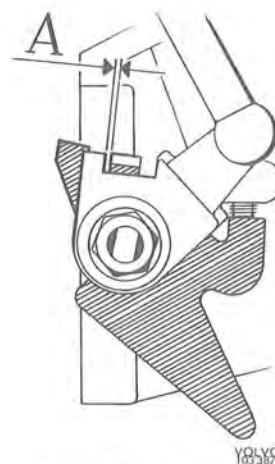

Fig. 2-73. Setting the control
5. Adjust the link rods. With the control against its stop on the manifold bracket, the link rods should be adjusted so that there is a clearance of about 0.1 mm (0.004") between the lever and the primary throttle spindle flange. See Fig. 2-73.
5. Adjust the link rods. With the control against its stop on the manifold bracket, the link rods should be adjusted so that there is a clearance of about 0.1 mm (0.004") between the lever and the flange of the primary throttle spindle. See Fig. 2-73.